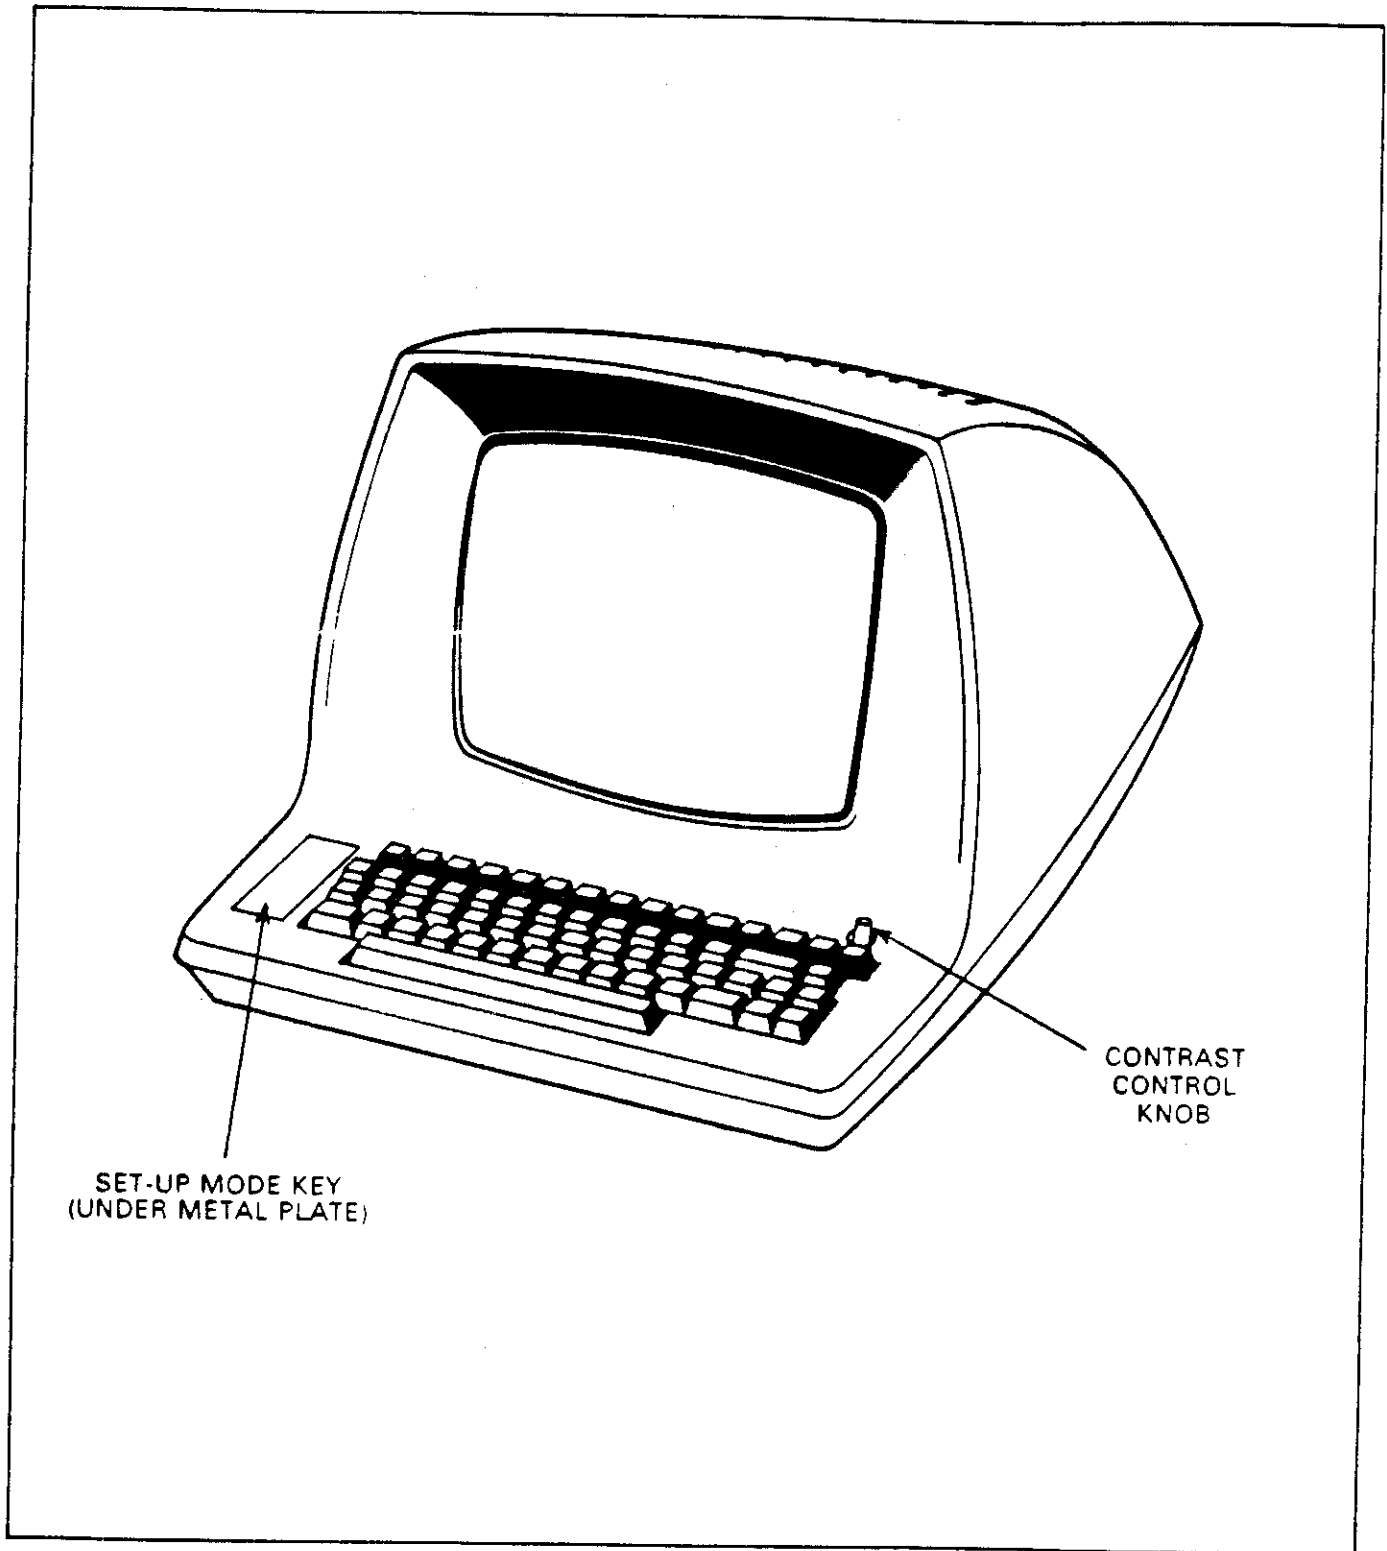

Figure 2-7. ADM 3A Front Panel Controls
5. Adjust the contrast control (Figure 2-7, page 2-9) on the front panel for the desired brightness. The cursor should be present.
features, and to set or change terminal parameters when required through keyboard commands. The set-up features, which reside in non-volatile EEROM, are displayed on line 24 (status line). The set-up mode is accessible only from the keyboard by holding down **SHIFT** key and pressing the **SETUP** key. The setup key is located in the recessed area under the metal plate to the left of the keyboard (Figure 2-7, page 2-9). Table 3-2, page 3-4 provides a list of set-up mode keyboard commands that control set-up mode operations. The set-up functions may be changed in any sequence.